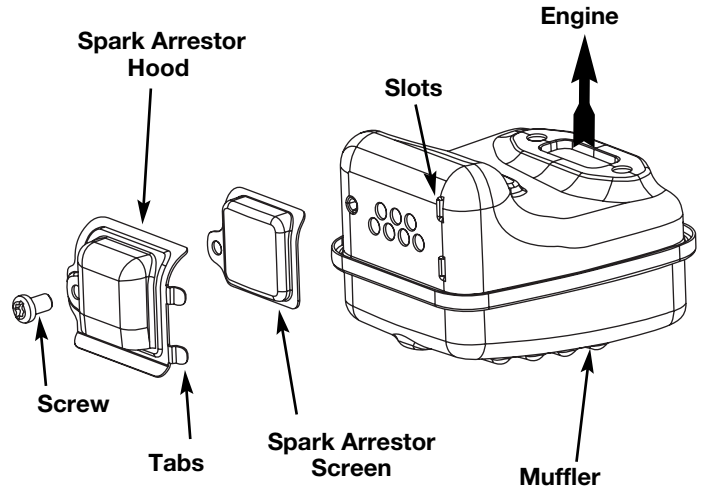

Fig. 31
2. Locate the muffler, but do not remove it. Find the screw on the bottom of the muffler (Fig. 31). Remove the screw using either a torx #20 or flat blade screwdriver.